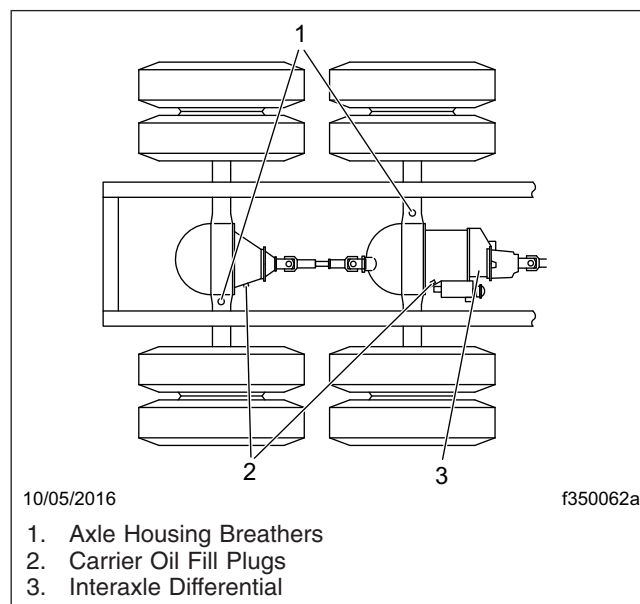

Fig. 10, Meritor Axle Housing Breathers
5. Check the axle housing breather. Make sure that it is open and unclogged. See Fig. 10. If the breather is plugged or damaged, clean or replace it as needed.